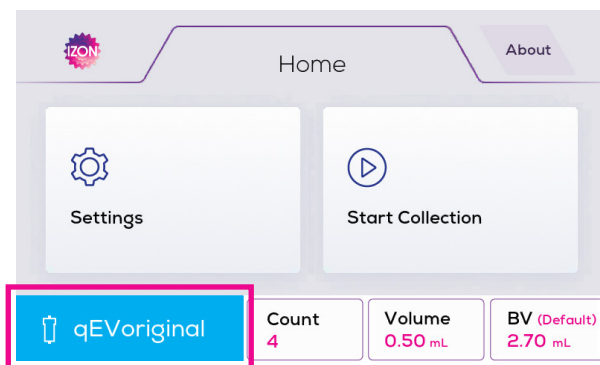

Figure 11: Home screen when a column is attached.
- Turn the column within the column mount until the type of qEV column used is displayed on the touchscreen as shown in Figure 11 below.